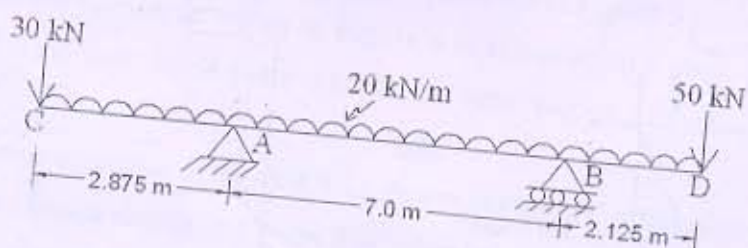

Figure 11
- (c) Draw Shear Force and Bending Moment Diagram for the beam shown in **Figure 11**.